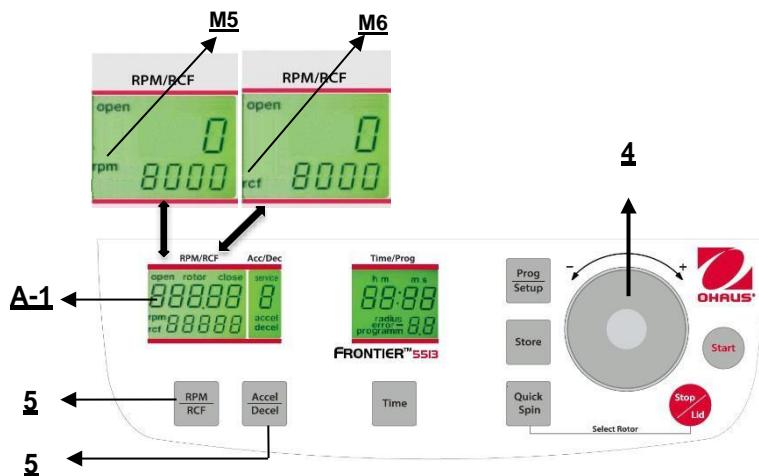

Figure. 13
This pre-selection is activated through the key "**RPM/RCF**" (5) (refer to figure 13 below). By pressing the key once the word "rpm" (M5) flashes. By pressing the key twice, the pre-selection of the centrifugal forces can be selected. Then the flashing word "rcf" (M6) appears. You can set the desired values with the adjusting dial (1). In the display (A-1) the regulated value is shown permanently, before, during and after the run.